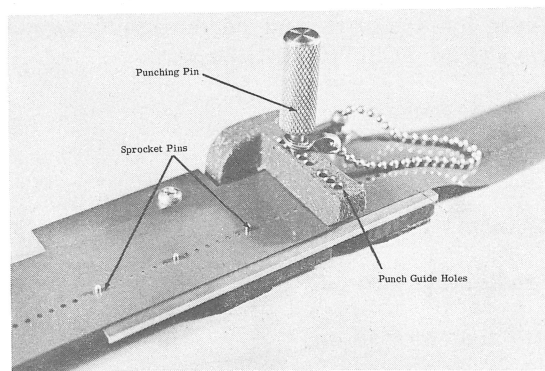

Figure 11. Hand Punch for a Vertical Format Loop
5. Punch desired VFU channel holes in the strip with the aluminum colored side face down on the punch block. Avoid punching any holes within 4 sprocket holes of either end. Position the tape so that the sprocket hole which is to represent the first line of print is over a punch guide hole (Figure 11). Note that the distance from the punch guide holes to the first sprocket pin is 8 sprocket holes on the tape and the distance from the first to the second and from the second to the third sprocket pin is also 8 sprocket holes.